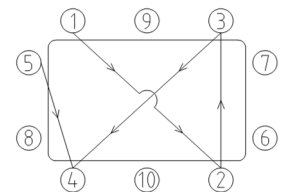

Fig 5.
12. Fix the sink to the worktop by tightening the screws on the fixing clips clockwise (fig. 5) using a crosshead screwdriver, the sink frame will pull down tight and flat to the top surface to the worktop.